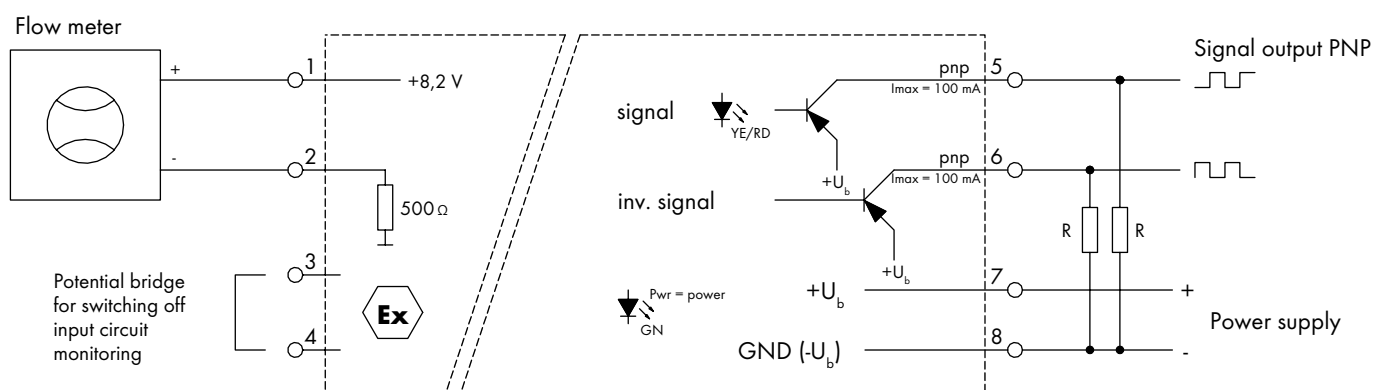

Figure 3: Circuit diagram of the isolation amplifier MK 13-P-Ex0/24 V DC/K15
**Note that the signal output of the isolation amplifier is a PNP-signal (low signal = open output; high signal =  $U_b$ ). Problems may arise, when the signal processor has high impedance inputs, especially in the higher range of flow rates. The signal edges become rounded, and the signal processor cannot detect the digital signal any more. In this case, insert a pull-down resistor with a resistance of approx. 2.2 – 4.7 k $\Omega$  parallel to the input of the signal processor (see figure 3; Resistor R).**